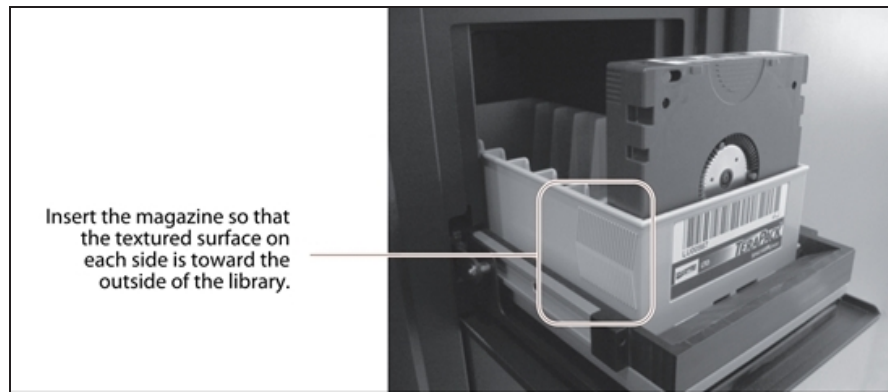

Figure 81 Insert a magazine into the TAP, making sure that it is correctly oriented.
3. Insert the magazine into the tray on the open TAP with the textured surface side toward the outside of the library, as shown in Figure 81 on page 149.
4. Click **Open TAP** to access the exported magazine. Exchange the magazine or any desired media in the TAP then click **Close TAP**. If you exchange a magazine, make sure the new magazine is oriented correctly (see Figure 81 on page 149).